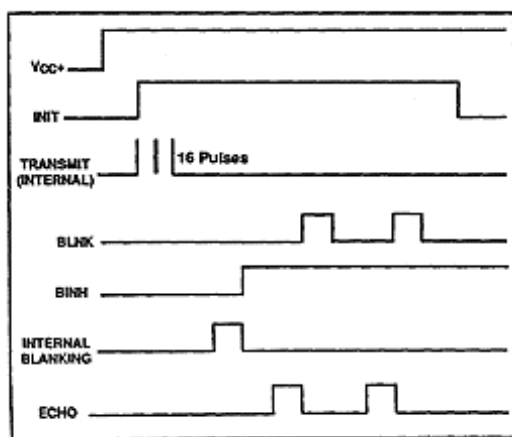

FIGURE 2: EXAMPLE OF A MULTIPLE-ECHO-MODE CYCLE WITH BLANKING INPUT
**INPUT / OUTPUT SCHEMATIC NOTES:** The echo output is an open collector transistor output and requires a 4.7k ohm pull up resistor between  $V_{cc}$  and the output. If there is more than one target and multiple echoes will be detected from a single transmission, then the cycle is slightly different (Figure 2). After receiving the first return signal which causes the ECHO output to go high, the Blanking (BLNK) input must be taken high then back low to reset the ECHO output for the next return signal. The blanking signal must be at least 0.44 milliseconds in duration to account for all 16 returning pulses from the first target and allow for internal delay times. This corresponds to the two targets being 3" apart.